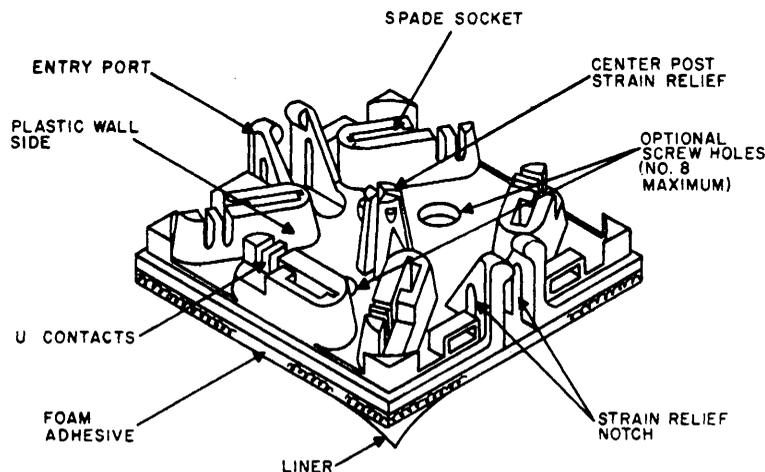

Figure 11. 3M Number 4110 Connecting Block.
2.10 The Scotchflex number 4110 (Figure 11) is a five terminal connecting block. The 4110 uses a self-stripping U-contact quick-connect principle and plug-in sockets to join station wire and line cord. The 4110 has a pressure-sensitive adhesive backing for mounting. Optional screw holes are provided.